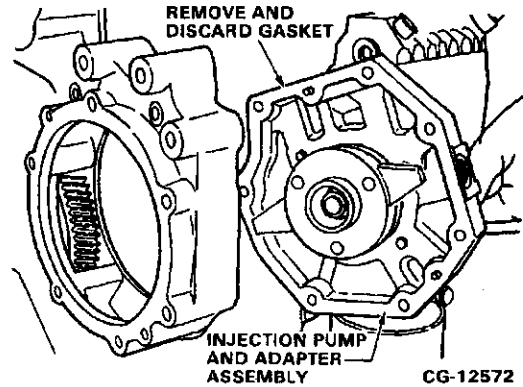

Figure 11.115. Remove Injection Pump Assembly
15. Remove the injection pump and mounting adapter as an assembly. Discard the gasket. Refer to Figure 11.115.